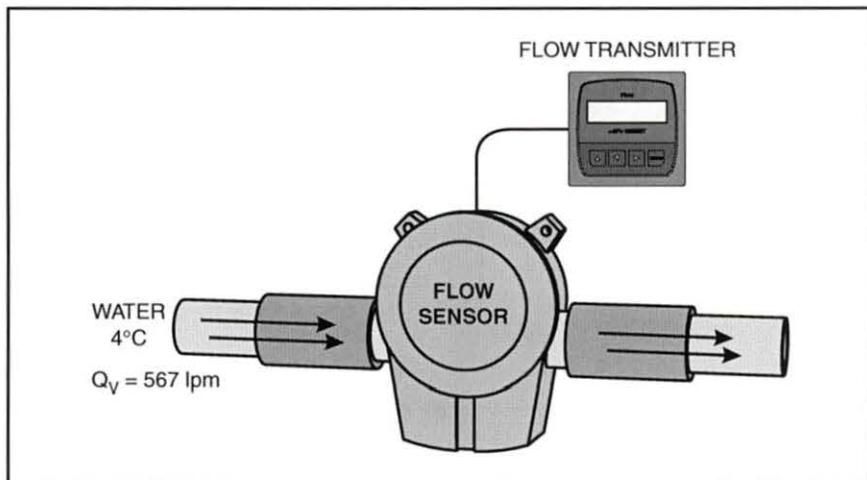

Figure 13. Volumetric Flow through a Pipe
- 1. Calculate the mass flow rate of water at 4°C flowing through the pipe shown in figure 13. The volumetric flow rate is 567 lpm.